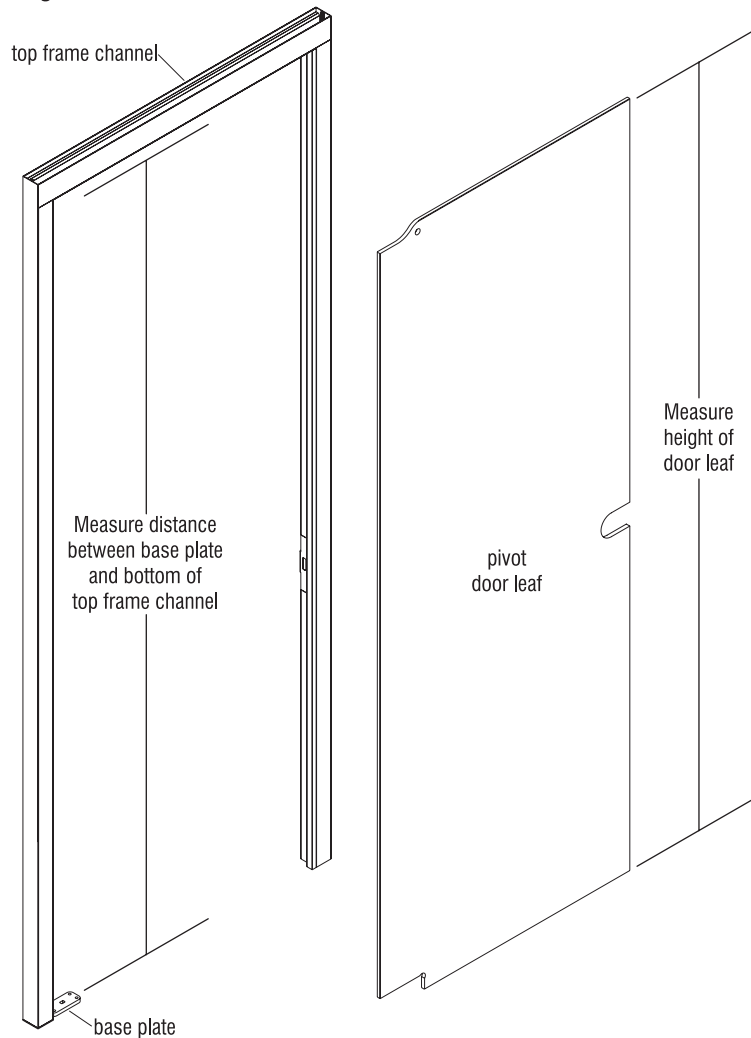

Figure 2
2. Measure distance from top of base plate to underside of top frame channel. Next, measure height of glass door leaf. The distance between base plate and top frame channel should be $\frac{1}{4}$ " to $\frac{3}{8}$ " taller than the height of the leaf. If the gap is larger, shims will need to be used when installing the base plate (Figure 2).